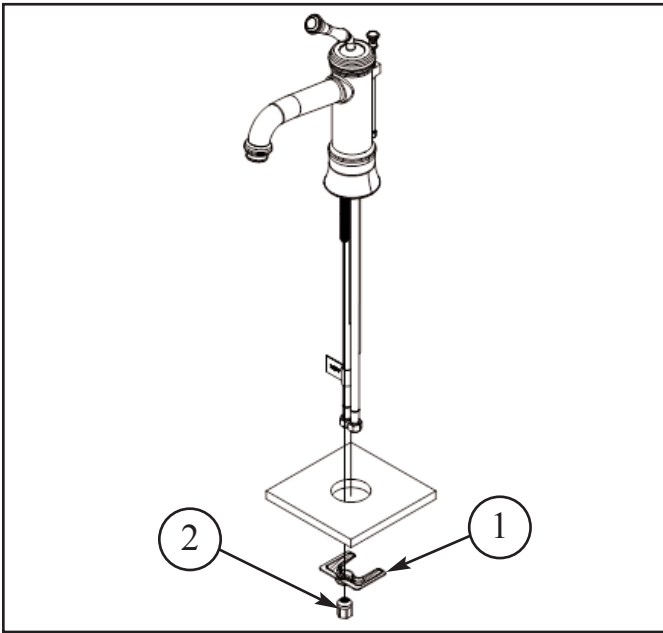

Figure 1
1. Place the spout hoses, one at a time, and secure spout into place with MOUNTING BRACKET(1) and MOUNTING NUT (2). See Fig. 1